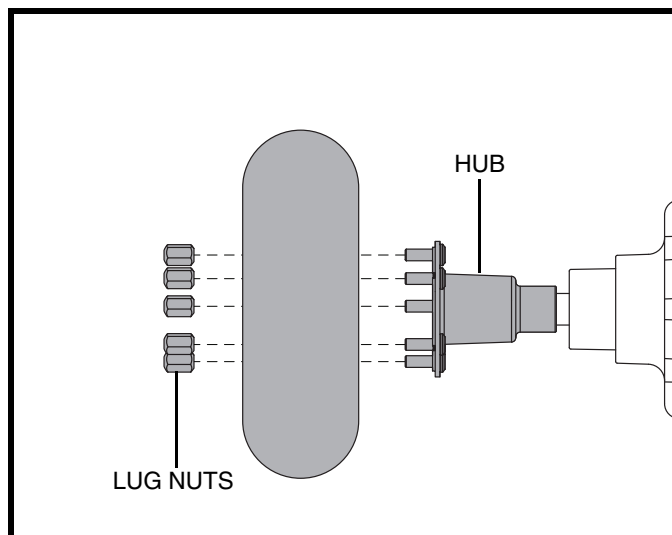

Figure 29. Drive Wheel Removal
4. Remove the drive wheel lug nuts from the hub. See figure 29.
9. Slide the wheel back onto the hub. See figure 29.